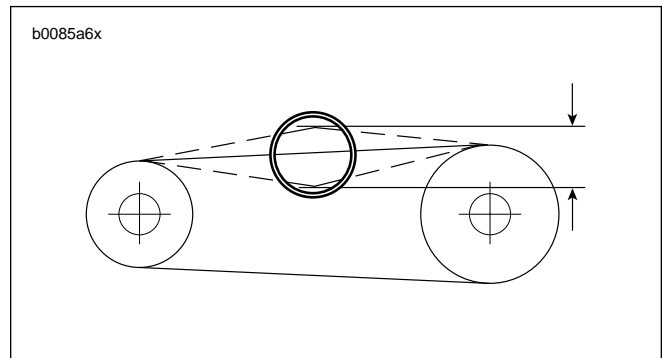

Figure 1-33. Measuring Primary Chain Free Play
2. See Figure 1-33. Check primary chain tension by measuring vertical free play.